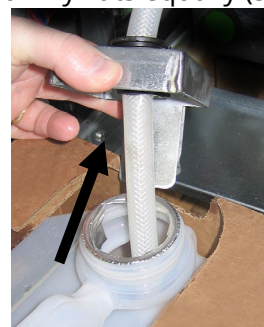

Figure 4
2. Remove the cap and pour any remaining oil in the container into all fry vats equally (see Figure 4).